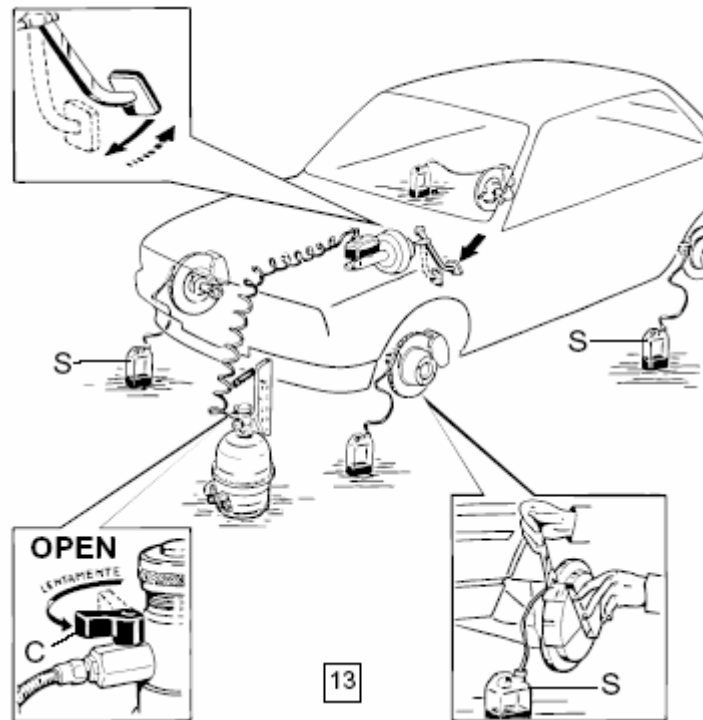

Fig.10
-Apply the two recovery devices S on the bleeder valves of the wheels (fig.10)
-Open cock C slowly in order to prevent any risk of emulsion(fig.10).
In any case during the bleeding, when the bleeder valves are still open, press the brake pedal rapidly 2-3 times, allowing it to return slowly(fig.10)